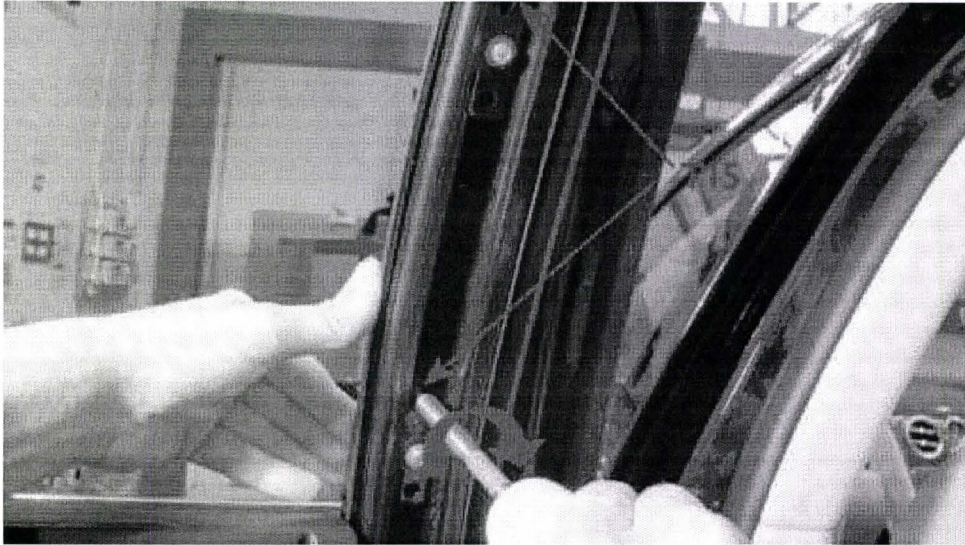

Figure 5
5. Secure the outer frame finisher with the two T15 fasteners, whilst tightening the fasteners gently push the finisher towards the door frame to ensure correct engagement in the seal (see Figure 5)